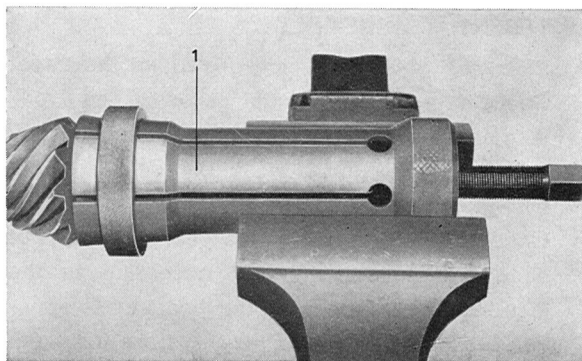

Fig. 4-157. Rear pinion bearing removal
11. If necessary, pull off the rear bearing from the pinion with puller 2392, see Fig. 4-157. The puller is fitted in the following way: Move the puller down over the rollers and press